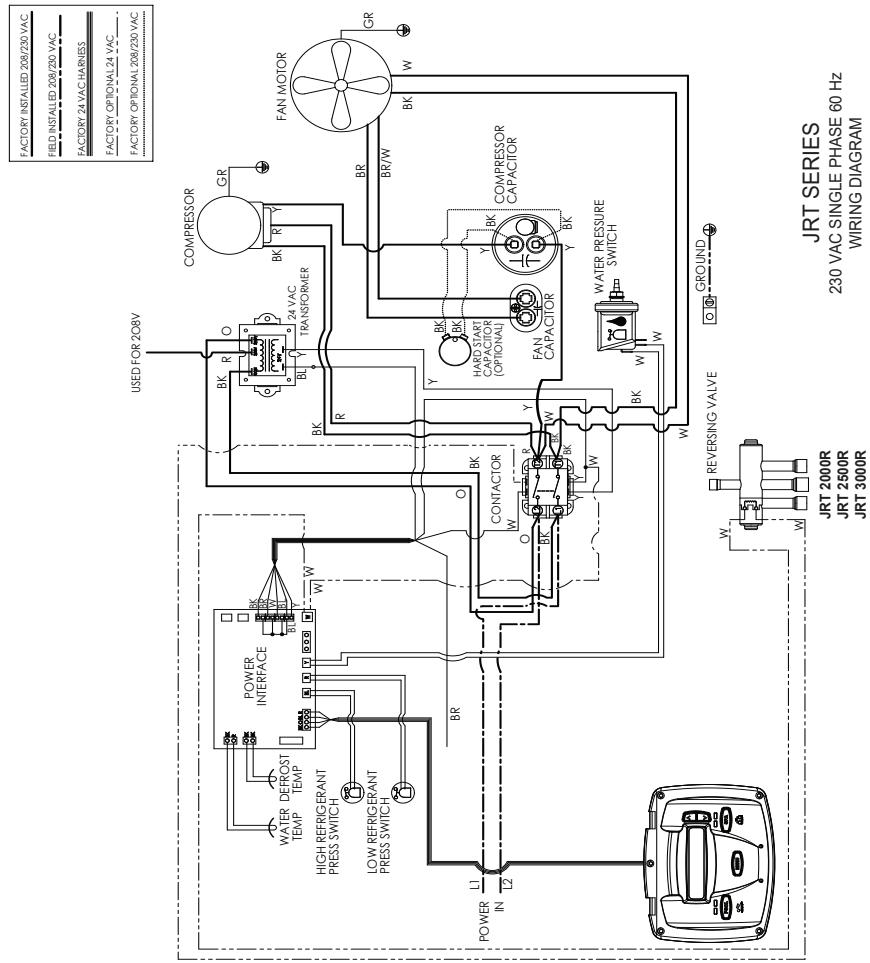
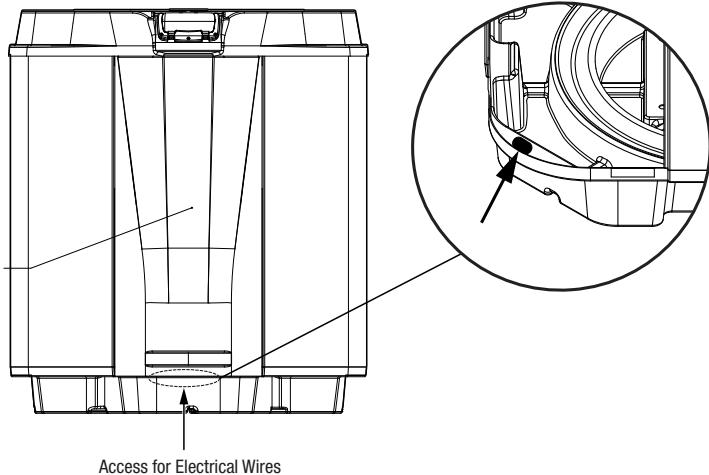

Figure 8. JRT Single-Phase Electrical Supply Wiring Diagram
Figure 10. Jandy JRT Heat Pump Front View
Wiring connections must be made exactly as shown in the wiring diagram found on the inside of the heat pump access compartment (see *Figure 8* for single phase electrical wiring). The heat pump must include a definite means of grounding and bonding. There is a bonding lug on the right side of the heat pump, where a bond wire must be attached.
2. Remove the three (3) screws that attach the service/access panel to the heat pump unit (see *Figure 10*).
8. Connect the wires to the terminals on the main contactor as shown in the wiring diagram. See *Figure 8*.
2. Remove the screws that attach the service/access panel to the heat pump unit and the cover to the junction box (see Figure 10).
2. Remove the screws that attach the service/access panel to the heat pump unit and the cover to the junction box (see *Figure 10*).
3. Run the wires from the pool/spa control system into the conduit connection labeled "low voltage connection", located on the lower right hand side of the heat pump (see *Figure 10*). Ensure conductors are not pinched or damaged.
2. Remove the three (3) screws that attach the front panel to the heat pump and remove the front panel. See *Figure 10*.
5. Run four (4) 22 AWG solid copper wires into the low voltage soft membrane located on the lower left-hand side of the heat pump. The wires may be up to 300 feet (91.4 m) in length.
6. Connect the wires to the 4 position terminal on the lower left-hand corner of the Power Interface PC Board, labeled “User Interface1”. See *Figure 8*. The wires will be added to the existing wiring to the User Interface installed on the heat pump.